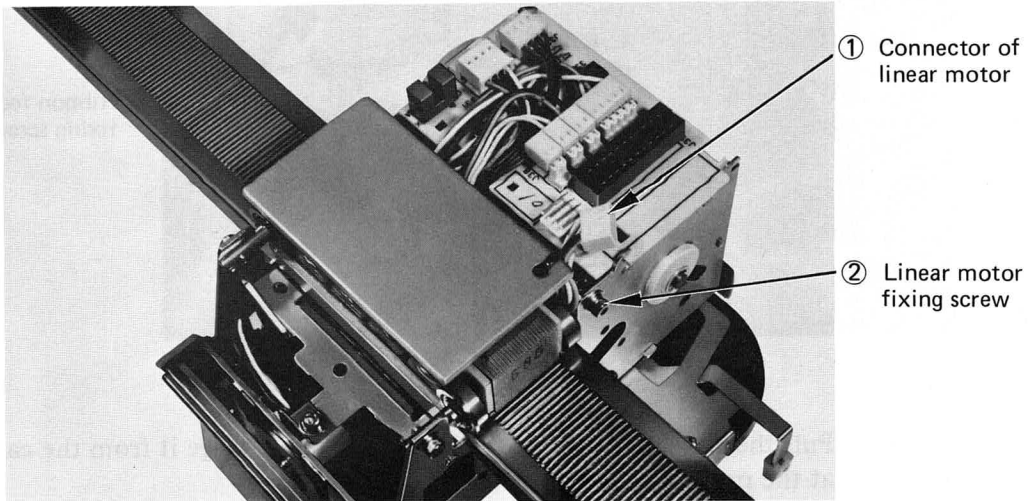

Fig. 5.12
- Step 1. Remove the carriage unit, and disconnect linear motor connector ① from the carriage circuit board. (Fig. 5.12)
- Step 2. Remove four fixing screws ② of the linear motor to take off the linear motor. (Fig. 5.12)